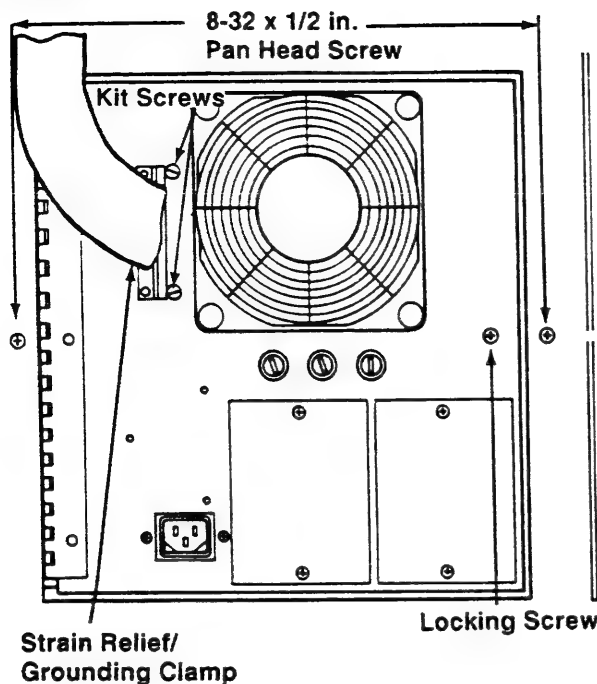
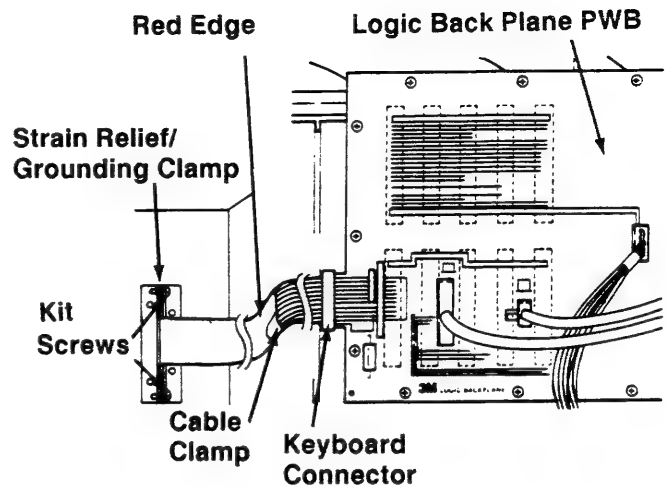

Figure 2-3.1E
Figure 2-3.1F
10. Loosely install two 8-32 x 1/2 in. Pan Head Taptite Screws (Item 2) at the rear of the Workstation (Figure 2-3.1E).
14. Remove the Locking Screw securing the Rear Door of the Workstation and open the Rear Door (Figure 2-3.1E).
15. With the red edge of the keyboard cable up, feed the Edgcard Connector and harness through the slot in the Rear Door (Figure 2-3.1E).
16. Install the threaded half of the Strain Relief/Grounding Clamp (Item 26) on the inside of the Rear Door (Figure 2-3.1E) with the Kit Screws (Figure 2-3.1F).
17. Install the non-threaded half of the Strain Relief/Grounding Clamp on the threaded half installed in Step 14 using the Kit Screws (Figure 2-3.1F).
18. Position the exposed Copper Shield of the harness within the Strain Relief/Grounding Cable Clamp and tighten the screws (Figure 2-3.1F) installed in Step 15.
19. With the red edge of the cable up plug the Keyboard Harness Edgcard Connector into the left edge of the Logic Back Plane PWB (Figure 2-3.1F)
20. Install the Keyboard Harness in the Cable Clamp mounted on the right side of the Page Search Module (Figure 2-3.1F).